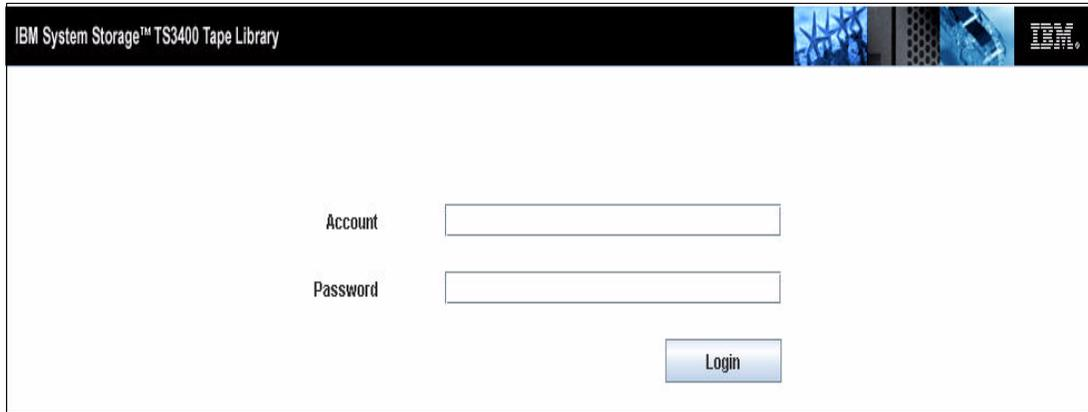

Figure 8-18 IBM System Storage TS3400 Tape Library log in window
7. Click **Always trust content from this publisher** to avoid this message in subsequent browser sessions. After launching the Web User Interface, the login window is displayed. See Figure 8-18 on page 213.